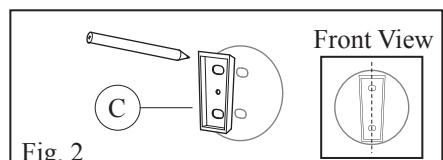

Fig. 2
2. Position a mounting bracket (C) in the center of outlined back plate. Use a pencil to mark positioning of the screw holes. (Fig. 2)